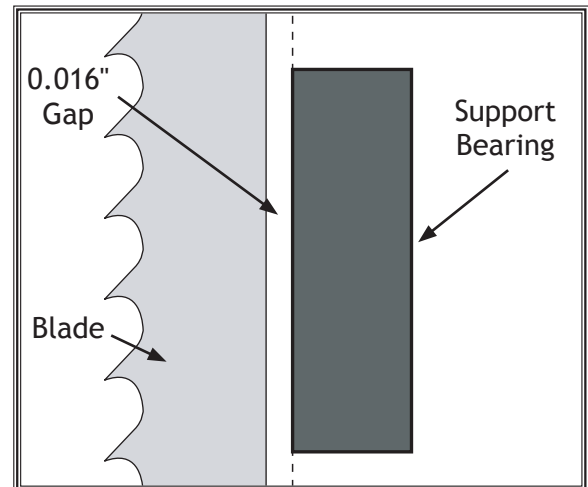
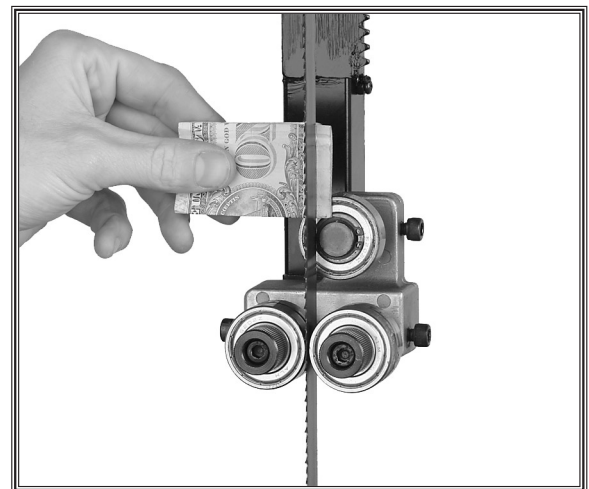

Figure 33. Blade aligned 0.016" away from the bearing edge.
Figure 34. Example of dollar bill folded twice to make an approximate 0.016" gauge.
7. Using a feeler gauge between the support bearing and the blade, position the bearing 0.016" away from the back of the blade, as illustrated in Figure 33.
Note: For a quick gauge, fold a crisp dollar bill in half twice (four thicknesses of a dollar bill is approximately 0.016") and place it between the support bearing and the blade as shown in Figure 34.
7. Using a feeler gauge, position the support bearing 0.016" away from the back of the blade, as illustrated in **Figure 33**, or use a dollar bill, as shown in **Figure 34** on **Page 25**.